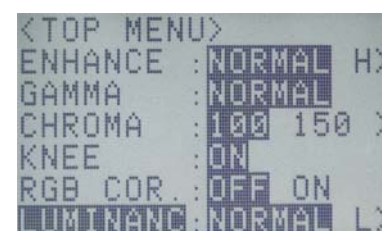

Figure 3-66 LUMINANC(TOP MENU)
- 2) Press up/down keys   to select LUMINANC. (Fig.3-66)